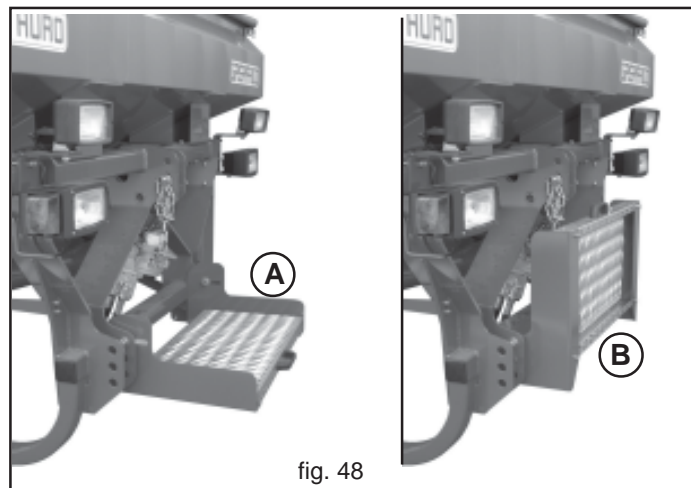

fig. 48
In the event of manual loading, use the platform (A, Fig. 48) to reach the hopper of the equipment.
Always fold the platform as shown in Figure 48 (B) during the work and during road transport.